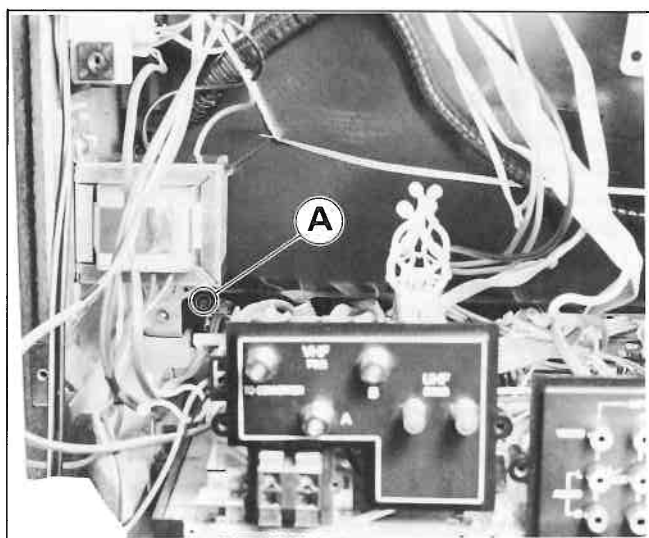

Fig. 5-3
2. Unscrew the screw (A) shown in Fig. 5-3.